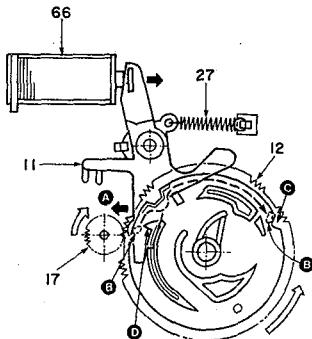
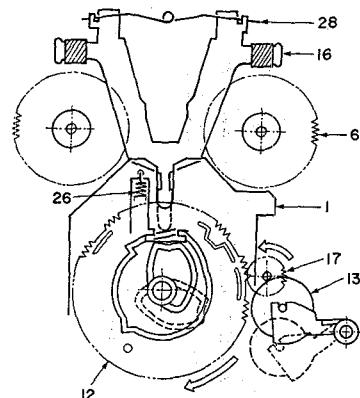

Fig. 6 (Rear side view)
Fig. 7 (Front side view)
2. PLAY/REC to STOP Operation (See Fig. 6, Fig. 7)
- 2-2. By a signal from the microprocessor, the SOLENOID (66) turns OFF.
- 2-3. The PLAY ARM (11) is swung in the direction of the arrow **A** by the SPRING (27), and the pin **B** is released from the stopper **D**.
- 2-4. The CAM GEAR is slightly rotated by the HEAD BASE (1) in the direction of the arrow **D**.